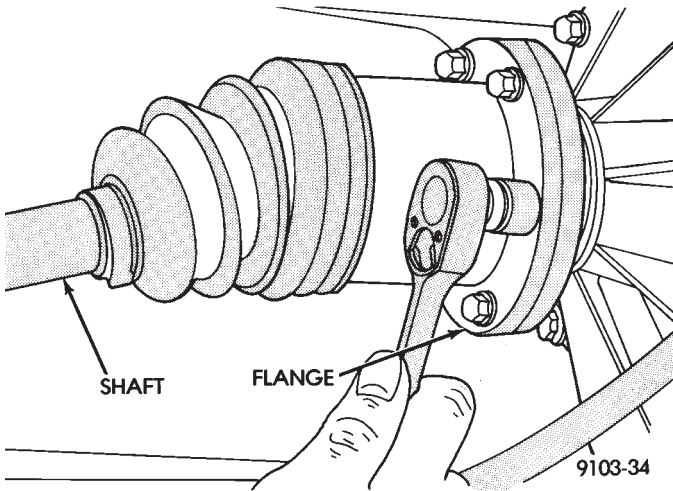

Fig. 4 Inner Half Shaft Bolts
- (5) Remove inner half shaft retaining bolts (Fig. 4).